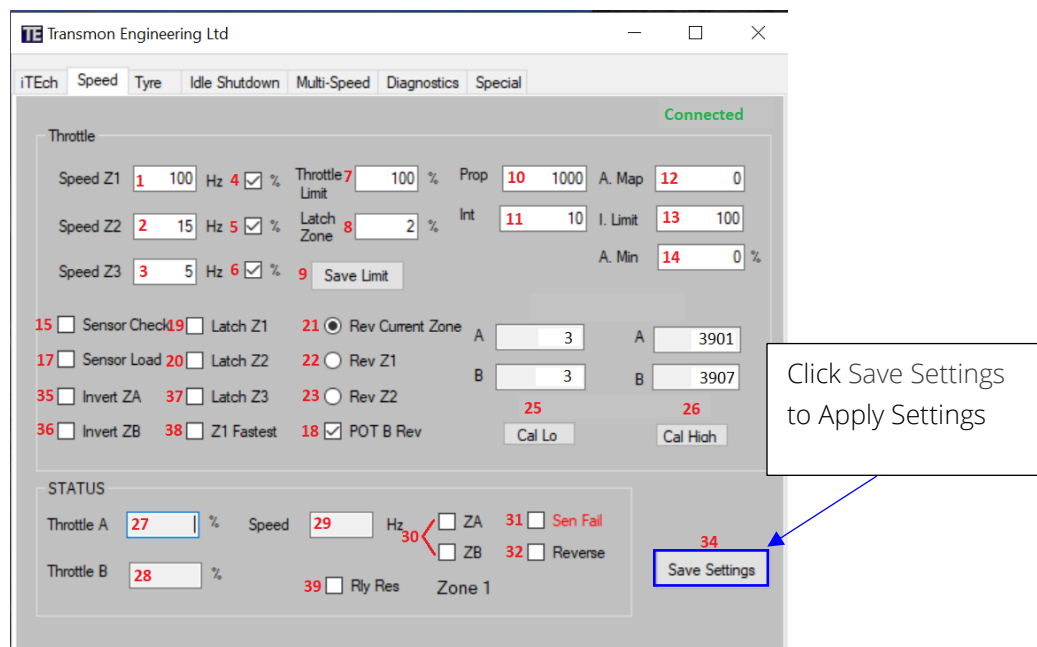

Figure 12: Throttle Limit Percentage Configuration
- Enter "15" in the Speed Z2 text box and check the corresponding "%" box (items 2 and 5 in Figure 12)
- Enter "5" in the Speed Z3 text box and check the corresponding "%" box (items 3 and 6 in Figure 12)
- Use Pedestrian Proximity Detection InFocus application to manually enable and disable Relay 2 and Relay 3 (see **Figure 12**)